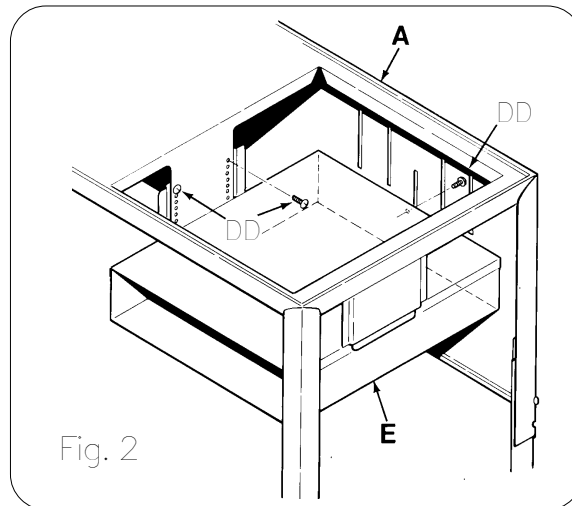

Fig. 2
The projector shelf has been pre-assembled at the factory but can be adjusted to the desired height once the table is assembled. To adjust the projector shelf (E), determine the desired height, remove the screws (DD) holding the shelf in place, slide the shelf into position, and replace the screws. (See figure 2) Tighten all screws securely before placing your overhead projector in position. Attach the optional E-Unit electrical assembly to the table using the screws and wing nuts provided.